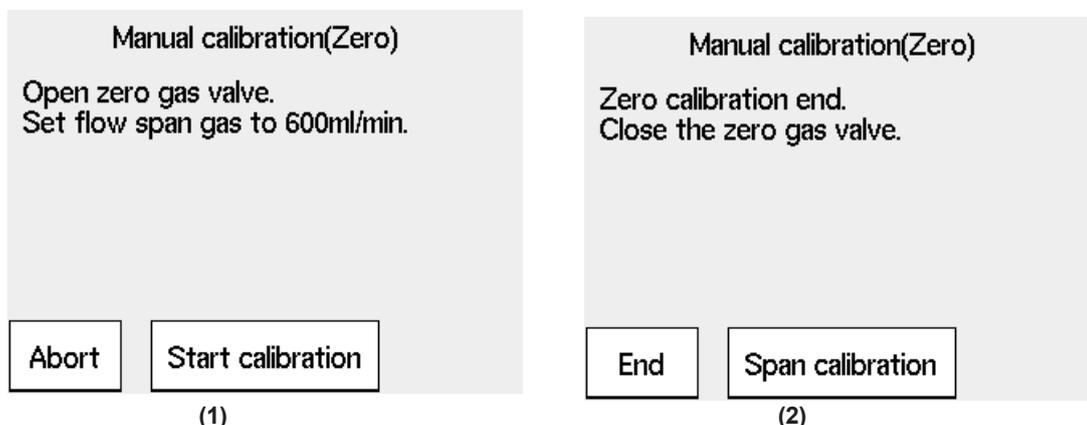

Figure 9.32 (1) Zero Gas Manual calibration
- (1) When the display shown in Figure 9.32 (1) appears during calibration, open the zero gas flow setting valve of the flow setting unit and adjust the flow rate to 600 ± 60 ml/min. To rotate the valve shaft, if the valve has a lock nut loosen the lock nut and slowly turn it counterclockwise. To check the flow rate, monitor the calibration gas flowmeter. If the sample gas pressure is extremely high, adjust the sample gas pressure to obtain pressures (listed in Table 9.10) $\pm 10\%$.
- (2) Adjust the flow rate and select "Valve opened" from the Manual calibration display. Check the Trend graph display to see that the measured value is stabilized. Then press the [Enter] key. The Manual calibration display shown in Figure 9.32 (2) appears.